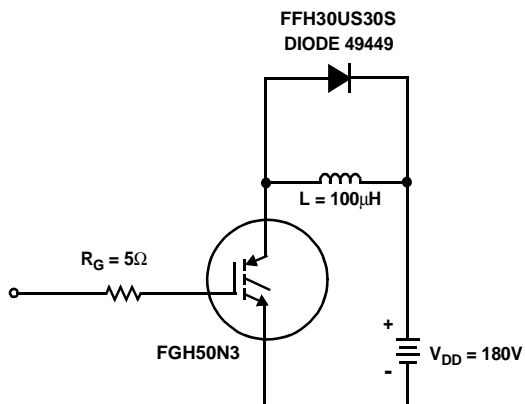

Figure 20. Inductive Switching Test Circuit
- $E_{ON2}$  is the turn-on loss when a typical diode is used in the test circuit and the diode is at the same  $T_J$  as the IGBT. The diode type is specified in figure 20.